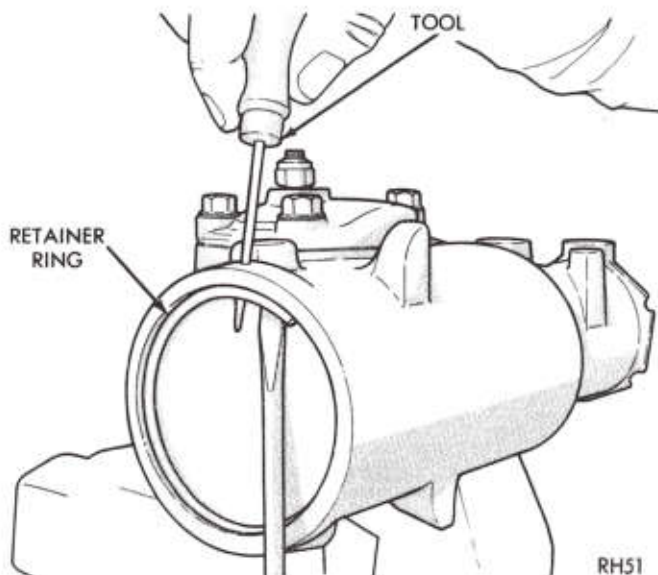

Fig. 6—Remove End Cover Retaining Ring
(1) Remove the cover retainer ring from the housing. Rotate the ring until one end is near the hole in the side of the housing, then pry it out (Fig. 6). Discard the oil seal.
(2) Push end cover out of housing by turning the stub shaft counterclockwise.